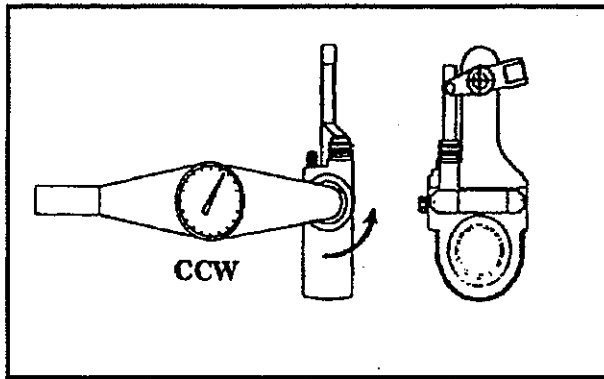

Figure 31—Turn Shaft
17. Torque the hex adjusting shaft counter clock wise slowly. (See Figure 31—Turn Shaft.)